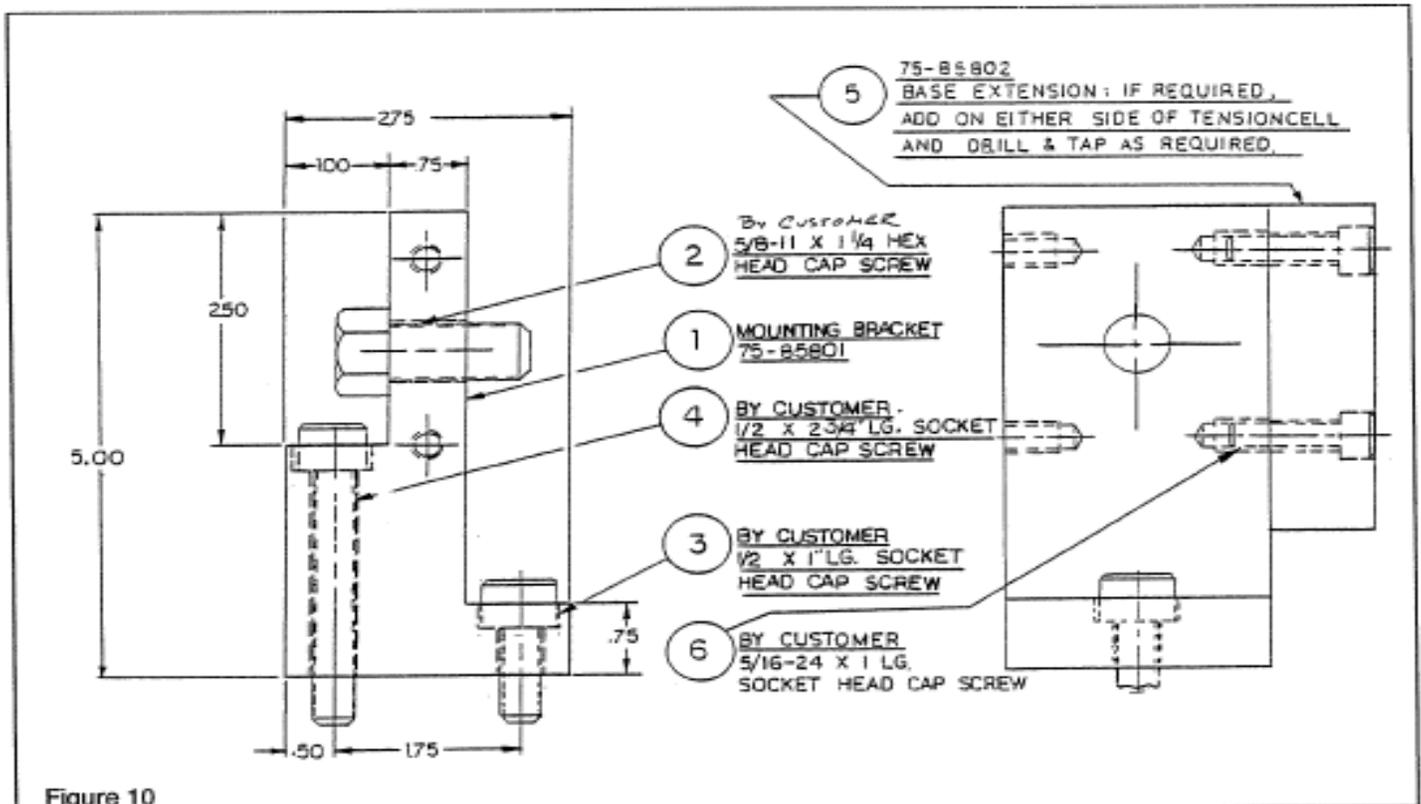

Figure 10
2. Refer to Figure 10 for the size, location and orientation of the Tensioncell Base Assembly mounting holes to be drilled and tapped in the stands or base structures.